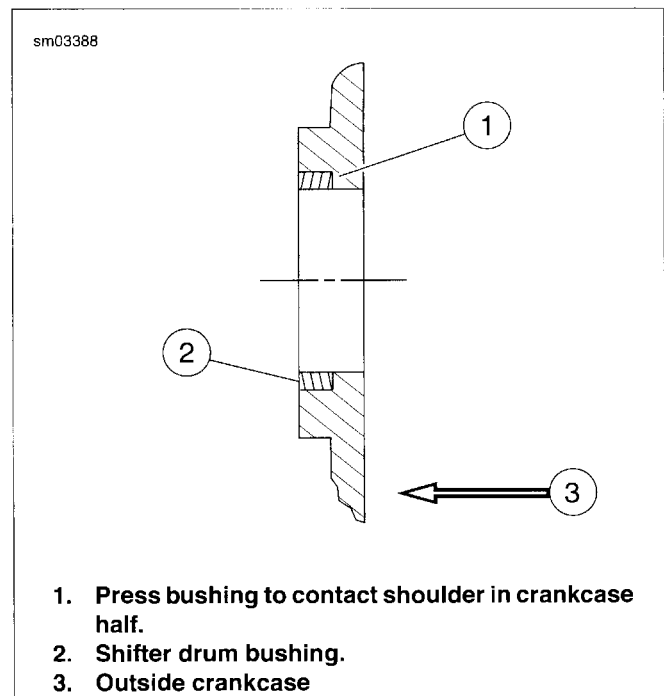

Figure 5-92. Shifter Drum Bushing Assembly
2. See Figure 5-92. Lay bushing squarely over bore. Using a pressing tool larger than diameter of bushing, press bushing into bore until bushing contacts shoulder in left crankcase half. If using a pressing tool larger than diameter of bushing, the pressing tool will bottom against crankcase when bushing is flush with top surface.